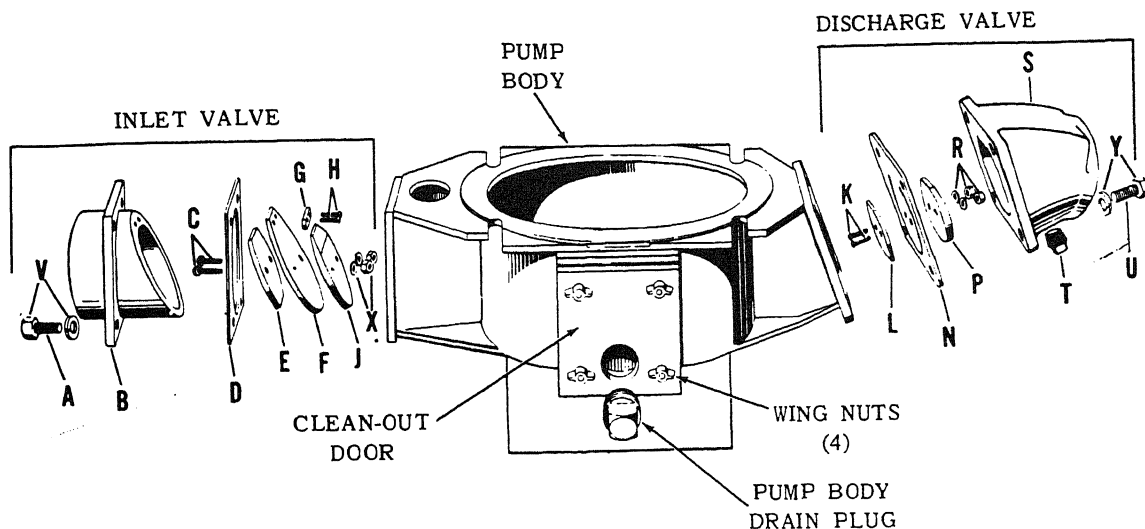

FIGURE 3A
- D. The rubber diaphragm (D) is now fully exposed.
- E. Remove two $\frac{5}{8}$ " brass nuts (E) and remove diaphragm flange (F).
- F. Pull old rubber diaphragm (D) off pump. Clean the inner and outer diaphragm seating areas on pump with a steel brush.
- G. Position new rubber diaphragm (D) in place. Replace diaphragm flange (F) and secure with brass nuts (E). Tighten nuts (E) until diaphragm is slightly depressed. Remove preservative from new diaphragm.
- H. Swing the combination pump top and frame down to its normal position. Secure with the four bolts and nuts (G), taking up a like amount on each nut to equalize pressure on the rubber diaphragm edge.
19. Inlet Valve Repair (Fig. 3A)
- A. With the suction line off (disconnected) and pump drained, or if working conditions permit, suction line may be left on the inlet valve, remove four $\frac{5}{8}$ " nuts and washers (V) from studs (A). Pull inlet valve free from pump body. Do not damage gasket (D). Save for reuse.
- B. Remove two brass screws (H), and keeper (G). Save for reuse. Remove two brass screws (C) with nuts and washers (X). Loosen and remove washer (E) and weight (J).
- C. With new rubber flap valve (F), reassemble flap valve assembly. Replace inlet valve assembly with gasket (D) on pump body and secure with the four $\frac{5}{8}$ " nuts and washers (V) on studs (A).
20. Discharge Valve Repair (Fig. 3A)
Reference for Fig. 3A